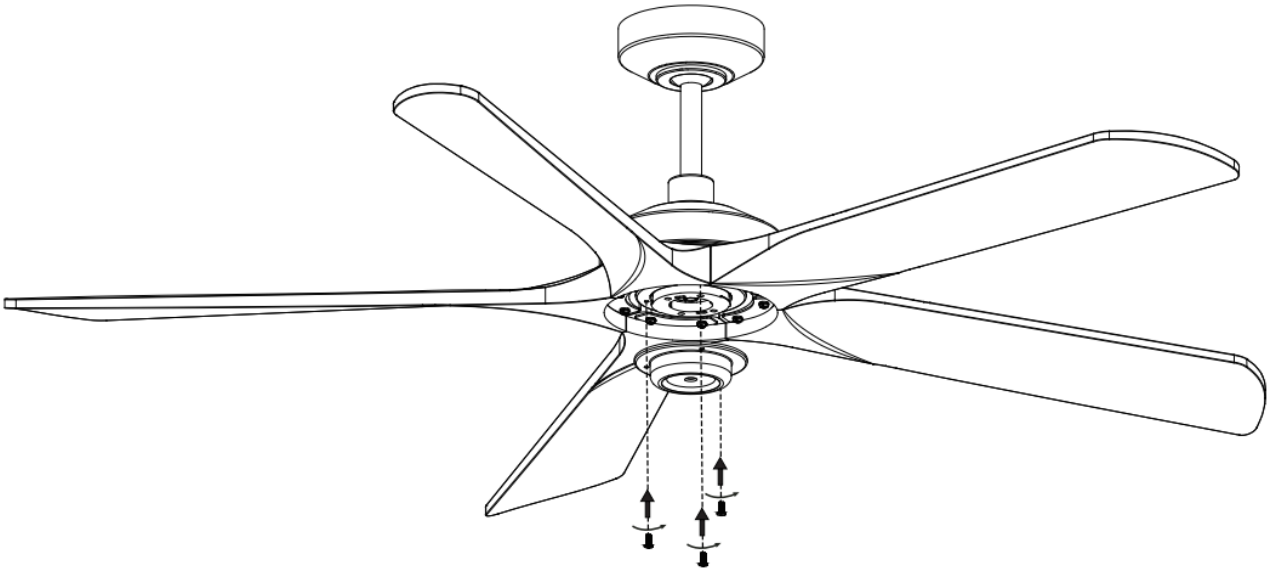
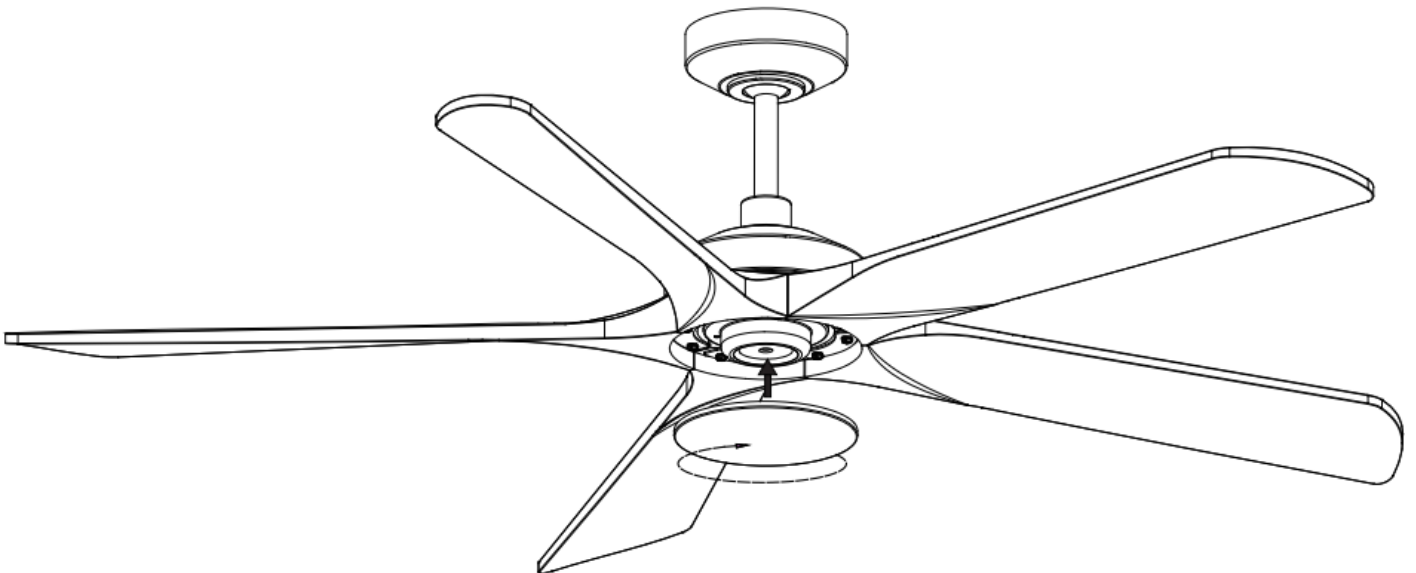

Fig. 9
Fig. 10
INSTALLATION OF BOTTOM COVER (Fig. 9 & Fig.10)
Tighten all three screws. Do not over-tighten. (Fig.9)
5. Install the bottom cover to the adapter then secure it by turning clockwise. (Fig.10)